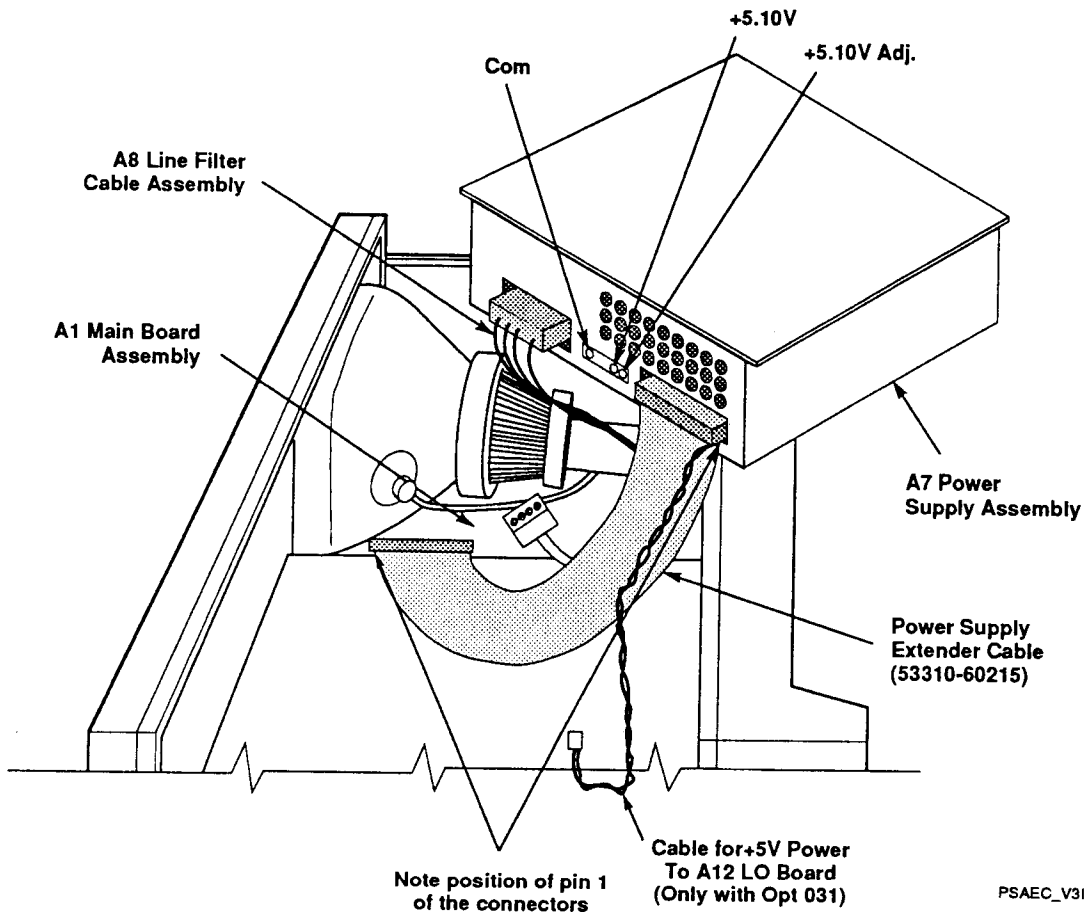

Figure 3-2. A7 Power Supply Assembly and Extender Cable Setup
- 7 *For easier access to the power supply adjustment, use the Power Supply Extender Cable (53310-60215) in the Service Accessories Kit (53310-67001). To use the extender cable perform the following (refer to *Figure 3-2* as needed):